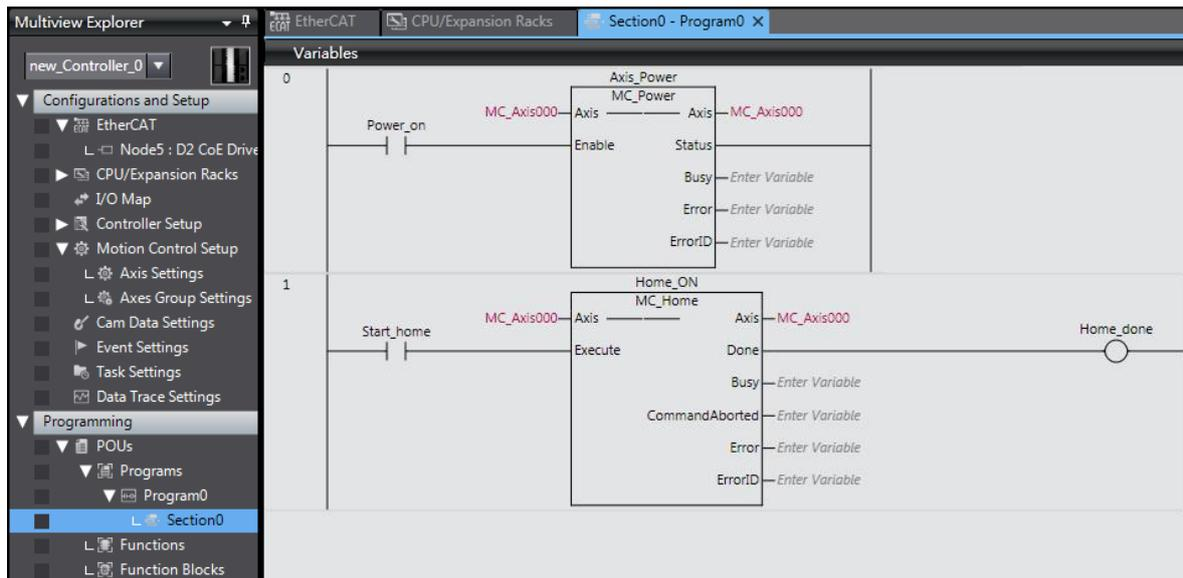

Fig. 5-49
- (7) Open “POUs” in “Programming” at the left side of Sysmac Studio main window. Select “Program0” in “Programs”. Use two function blocks of “MC_Power” and “MC_Home” to code a simple homing program on “Section0”, as shown in Fig. 5-49.